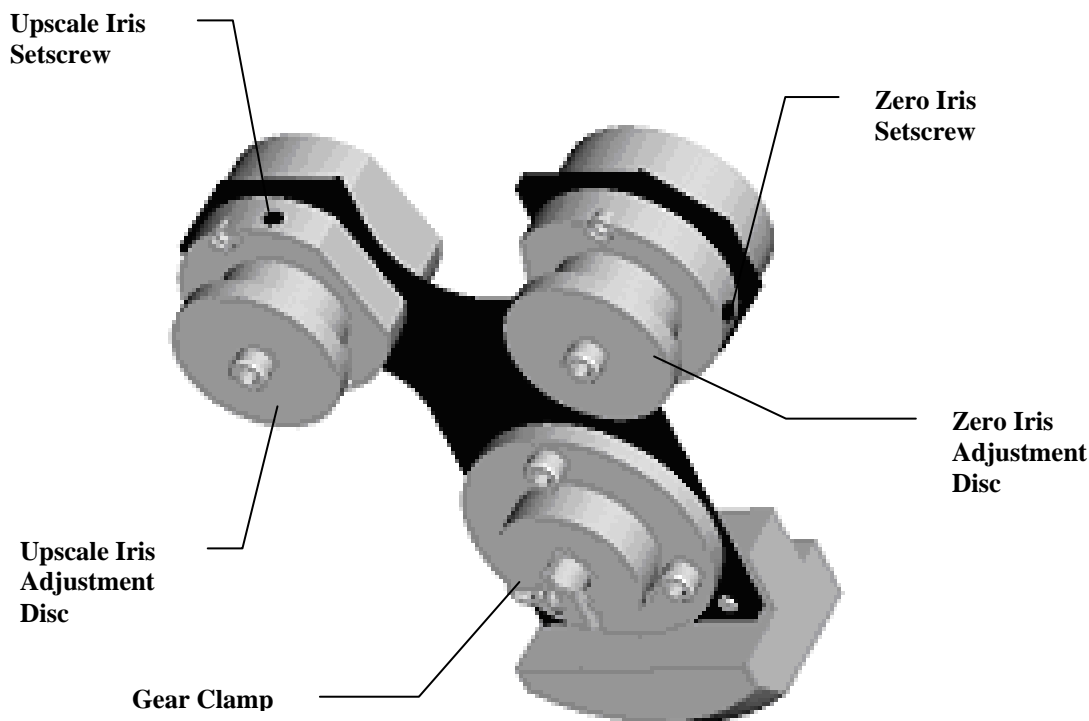

Figure 8-4
While the Optical Head hinged section is open, the simulated zero and upscale windows of the Calibration Assembly may be cleaned. The Cal Mechanism Arm Assembly can be removed by loosening the gear clamp and pulling it off the shaft. See Figure 8-4. **Care should be taken not to damage the guide pin.** Using the standard cloth and solution, clean both windows. Cotton cleaning swabs may be employed to clean hard to reach areas, so long as the lint-free cloth is used to remove any cotton fibers left by the swab. Return the Cal Mechanism Arm to the shaft making sure that the guide pin slides fully into the slot on the arm. Put the gear clamp back on and tighten.
- a) Loosen the Allen head setscrew that locks the Zero Iris in place. See Figure 8-4.
- c) Slowly rotate the disc on the rear of the Cal Zero Iris to achieve as near as possible to 0% opacity ($\pm 2\%$ on **U0**). See Figure 8-4.
- d) Carefully lock down the Iris setscrew. See Figure 8-4.
- i) Loosen the Allen head setscrew that locks the Upscale Iris in place. See Figure 8-4.
- iii) Slowly rotate the disc on the rear of the Cal Upscale Iris to achieve as near as possible to target value (location C1). See Figure 8-4.
- iv) When the proper value is obtained, carefully lock down the Upscale Iris setscrew. See Figure 8-4.